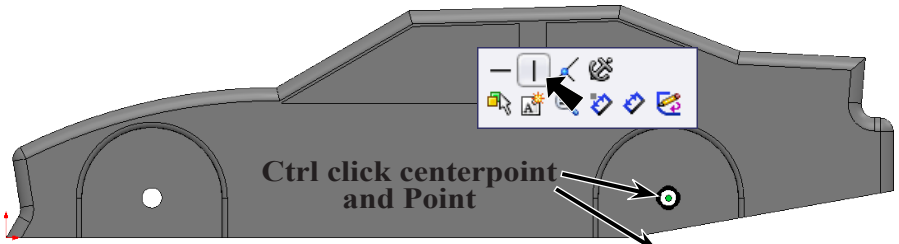

Fig. 83
Step 7. **Ctrl click centerpoint of offset** and **Point** to select both, **Fig. 83**. Release Ctrl key and click **Make Vertical**  on the Content menu.